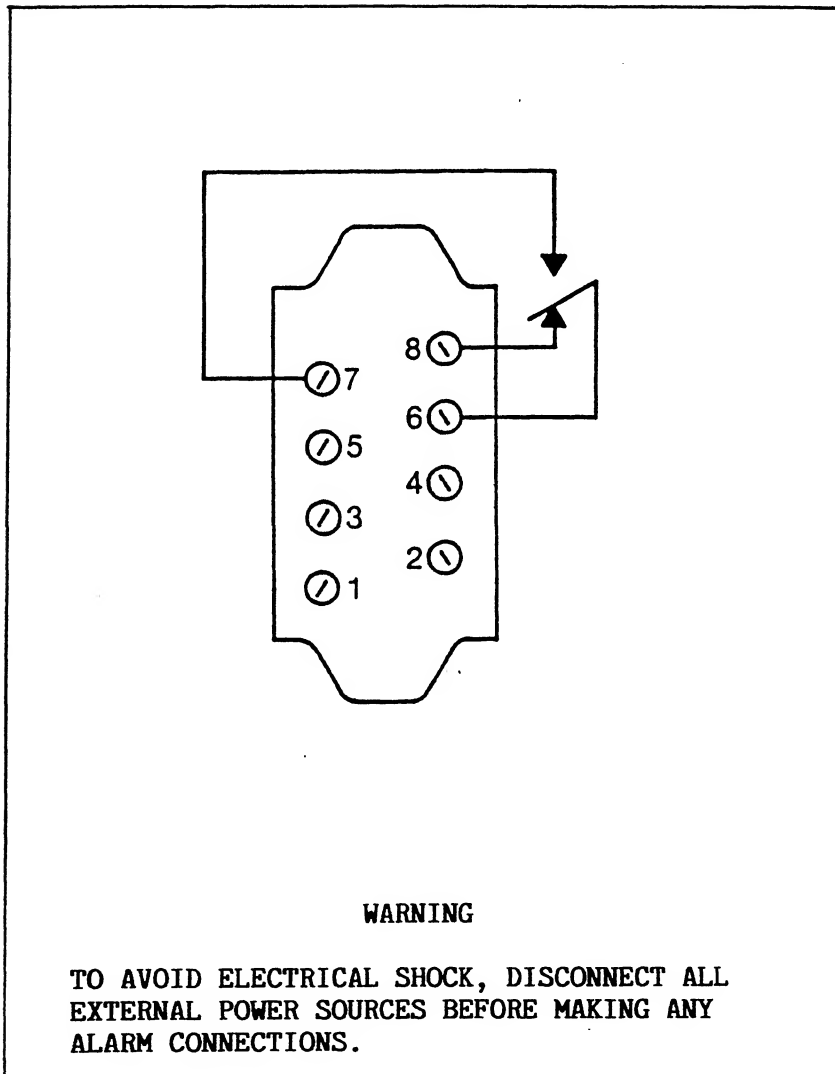

Figure 2-1. Alarm Annunciator Test
9. Wire an Alarm Acknowledgement Switch (single pole, double throw) to the Alarm Annunciator Terminal Strip as shown in Figure 2-1.